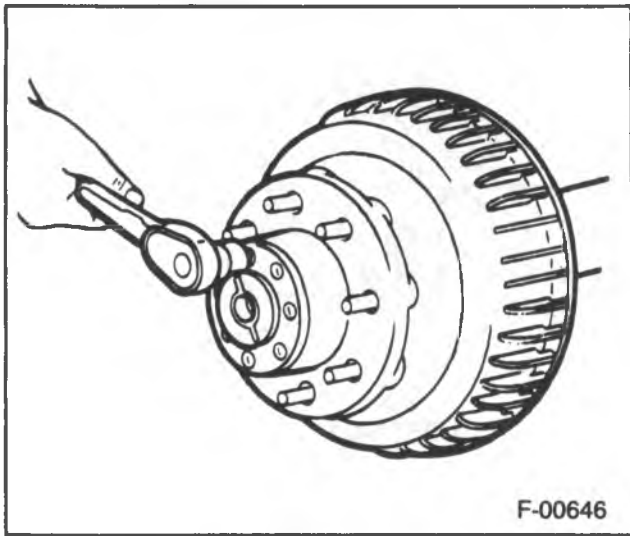

Figure 23 — Removing or Installing Flange-to-Hub Bolts
**Remove or Disconnect (Figures 23 and 24)**
1. Bolts (55) (figure 23).
- Rap the axle shaft (53) flange lightly with a soft-faced hammer to loosen the shaft.
- Grip the rib on the axle shaft (53) flange with a locking plier and twist to start shaft removal.
2. Axle shaft (53) from the tube.
Install or Connect (Figures 23 and 24)
1. Axle shaft (53) with gasket (51) (if used) or RTV applied.
2. Bolts (55) (figures 23 and 24).